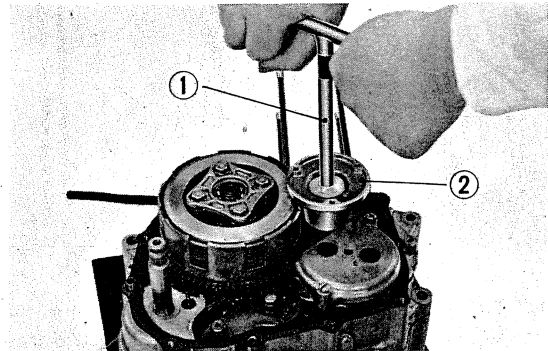

Fig. 56 Lock nut removal
① Oil filter ② Oil pump
- 3) Unscrew the 6mm lock nut and remove the oil filter rotor. (Fig. 56)